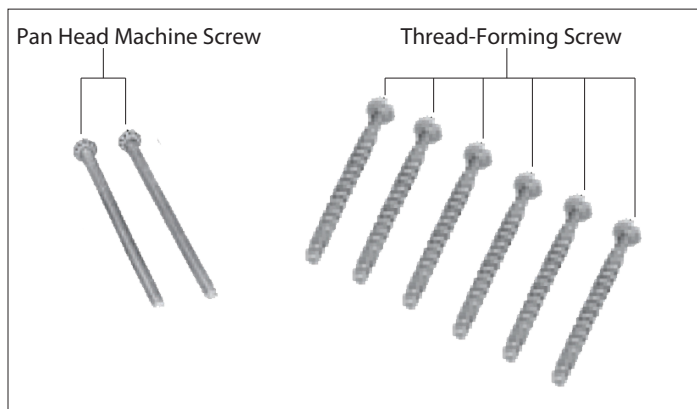

Figure 2. Cover Mounting Hardware.
- 2.1. Make sure that the circuit breaker frame is suitable for the intended installation by comparing nameplate data with existing ratings and system requirements. Inspect the circuit breaker for completeness, and check for damage before mounting. Uninstalled cover mounting hardware is supplied in a plastic bag with the circuit breaker frame (see Figure 2).